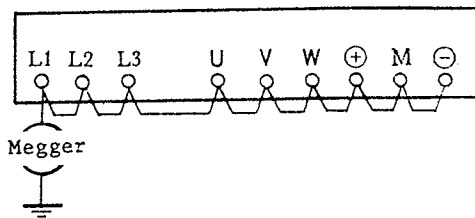

Figure 7-1 Terminal Connection for Insulation Resistance and Withstand Voltage Tests
- (1) Routine check
- (2) Periodical check (yearly)
- (3) Insulation resistance and withstand voltage test
- To conduct insulation resistance and withstand voltage tests, connect the terminals as shown in Figure 7-1 and perform measurements under the following conditions:
- Measure the resistance between a terminal and the ground with a 500 VDC megger as shown in Figure 7-1. Confirm that the inverter withstands 5 M Ω or more.
- Apply 1500 VAC (200 V class), and 2000 VAC (400 V class) between a terminal and ground for one minute as shown in Figure 7-1. Confirm that there is no abnormality.
- Do not perform insulation resistance and withstand voltage tests for the terminals not shown in Figure 7-1 such as printed circuit board.